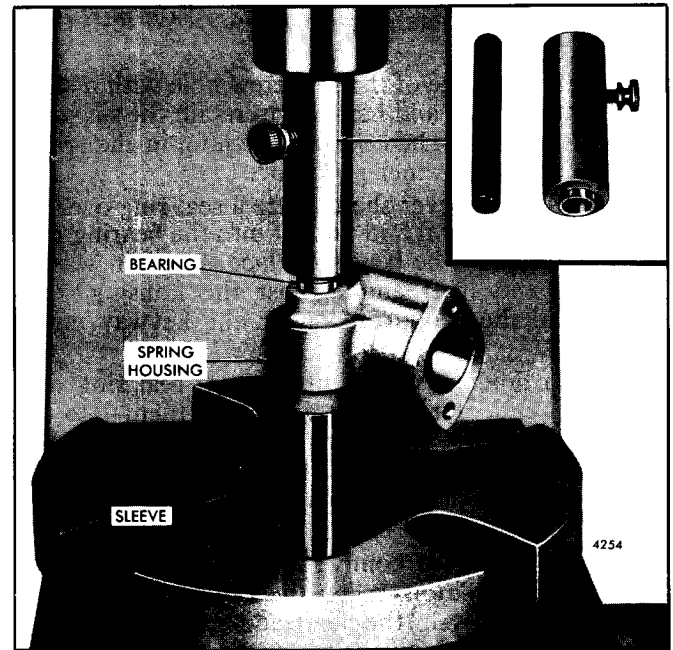

Fig. 8 - Installing Speed Control Shaft Bearings in Spring Housing using Tool J 9196
3. Place the pilot rod end of the bearing installer assembly in the bearing. Support the spring housing, bearing and installer on a short sleeve on the bed of an arbor press and press the bearing in the housing until the shoulder on the installer contacts the housing (Fig. 8). When the shoulder on the installer body contacts the housing, the bearing will be properly positioned in the housing.
10. Remove the bearing pilot rod J 9196-2 from the installer body J 9196-1 and place the installer body over the end of the shaft and against the bearing. Support the spring housing, bearings and installer on a short sleeve on the bed of an arbor press and press the bearing in the housing until the shoulder on the installer contacts the housing (Fig. 8).